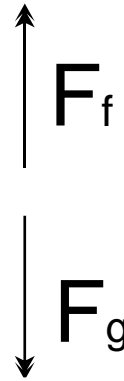

Figure 1
Figure 1 shows the forces acting on the drop when it is falling in air and has reached its terminal velocity. (Terminal velocity is reached in a few milliseconds for the droplets used in this experiment.) In Figure 1, F_f represents the force of friction and F_g represents the force due to gravity. Where,
1. Place the apparatus on a level, solid table with the viewing scope at a height which permits the experimenter to sit erect while observing the drops. If necessary to achieve the proper height, mount the apparatus on two support rods (ME-8736) on the large rod stand (ME-8735) (Figure 1).